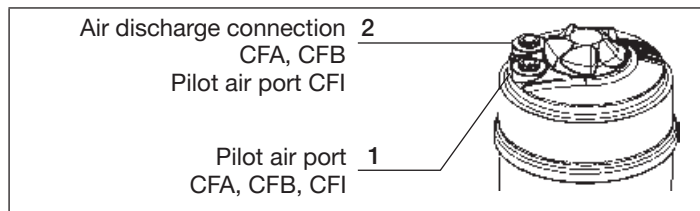

Fig. 18: Pneumatic connection
- Connect the control medium to the pilot air port 1 and 2 of the actuator (see “Fig. 18: Pneumatic connection”)